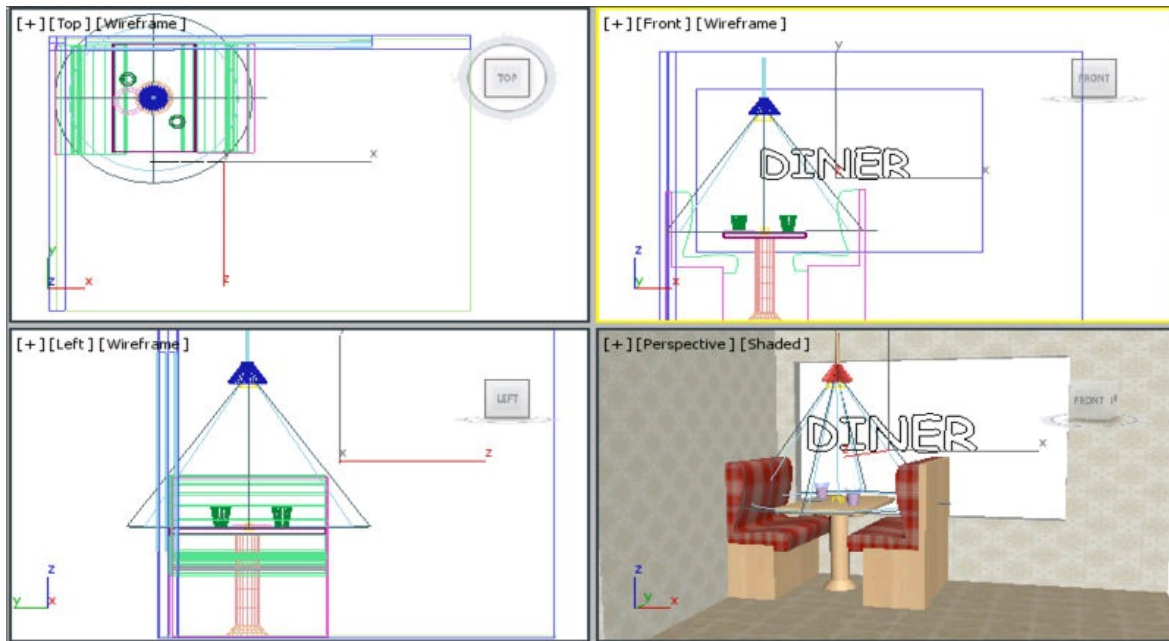

Figure P1-21 The text created
3. Click at a point at the center of *window01* in the Front viewport to place the text, as shown in Figure P1-21.